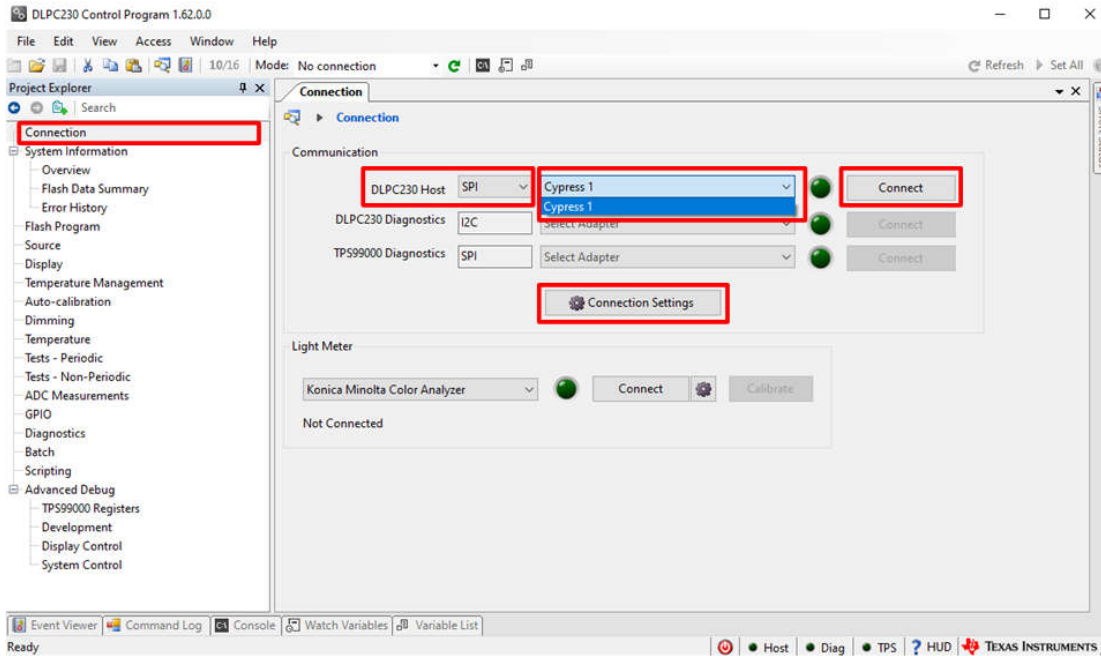

Figure 3-4. Connecting to the DLPC231-Q1 Using the DLPC230-Q1 Automotive Control Program
1. On the connection page set the DLPC230-Q1 Host to SPI and select *Cypress* from the drop-down menu (see Figure 3-4). Note, the Cypress must be connected to computer with a micro-USB cable for to show up in the drop-down menu.